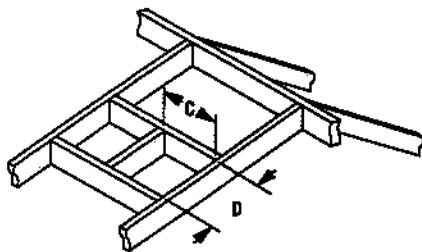

Figure 20
D. To add vent sections, start with the 5" (127 mm) inner section and slide it over the previously installed inner section; an overlap of 1 1/4" (32 mm) is required. The section will not bottom out on the bead. **Remember to seal inner sections using \_Mill-Pac Black (700°F) high temperature sealant on the mating surfaces before fitting together.** Secure with two (2) No. 8 x 1/2" sheet metal screws. Slide the 8" (203 mm) outer section over the previously installed outer section; a 1 1/4" (32 mm) overlap is required. This section will not bottom out on the bead. Make sure the crimped end of both inner and outer vent sections are the same height and that the centering spacer is properly seated. Secure with two (2) No. 8 x 1/2" sheet metal screws.
E. At transition from or to a horizontal/inclined run, the \_DST5-90ELB/\_DST5-45ELB/\_DVSP5-90ELB elbows install in the same manner as the straight vent sections. Apply \_Mill-Pac Black (700°F) high temperature sealant to the inner joints. Slip the inner elbow over the straight inner vent section. Secure with two (2) screws. Slide the outer elbow over the inner elbow, slip down over the outer vent section. Secure with two (2) screws.
H. Identify location for vent at the roof. Cut and/or frame opening per Roof Framing Chart and Figure 20.